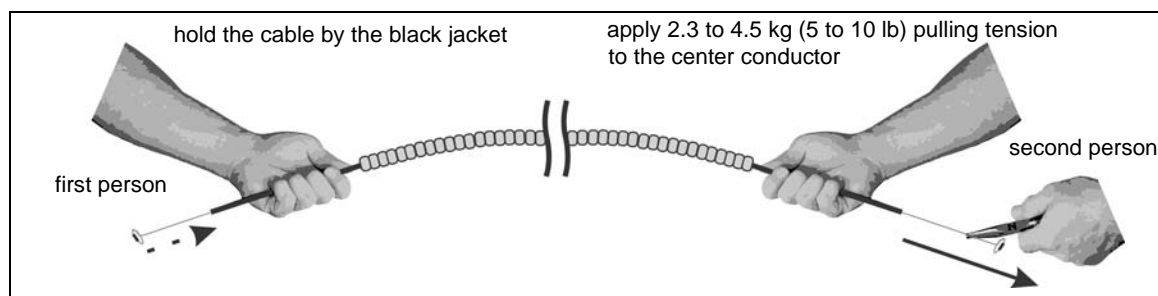

Figure 45: Mark 2 Armour-FLEX cable conditioning (part 2 cable flossing)
1. The second person begins by using pliers to apply 2.3 to 4.5 kg (5 to 10 lb) of pulling tension to the center conductor while maintaining a firm grip on the cable’s black jacket (see Figure 45:). The first person holds the cable firmly by the black jacket and tells the second person to stop pulling when the knot reaches the black jacket.